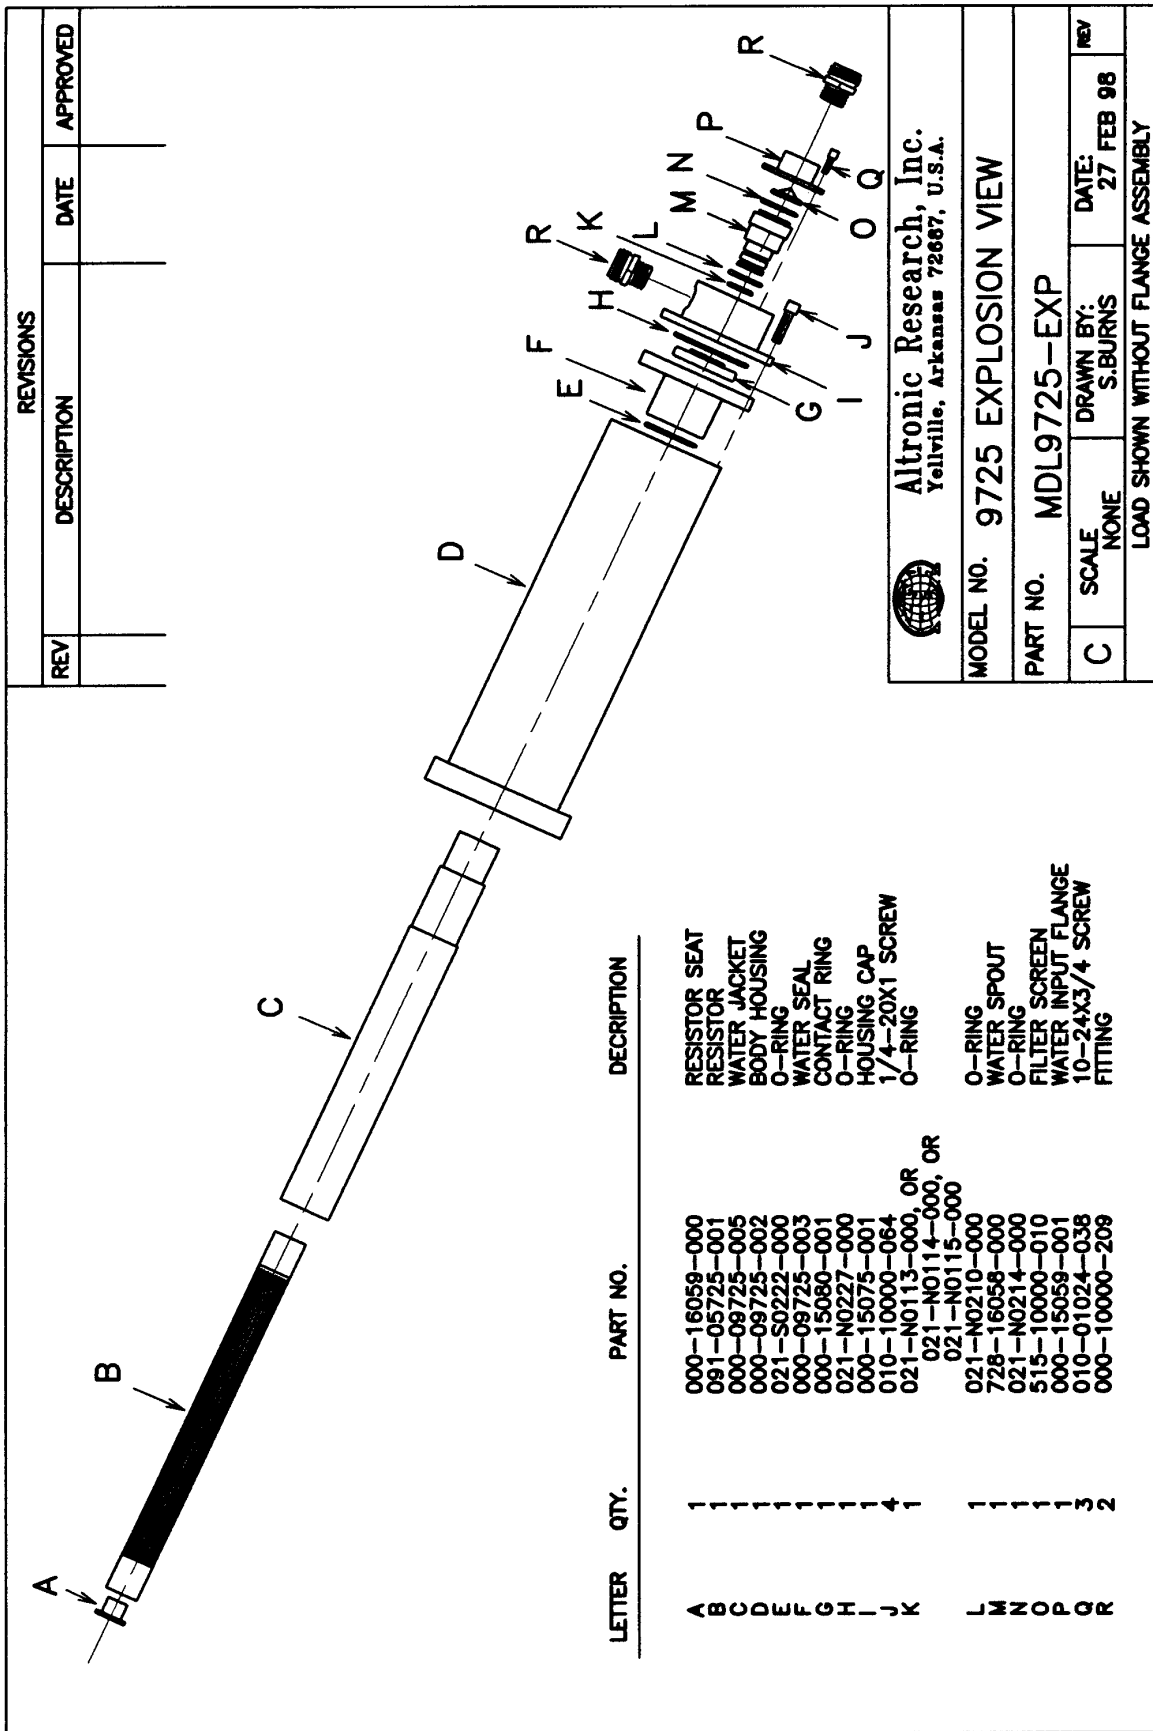
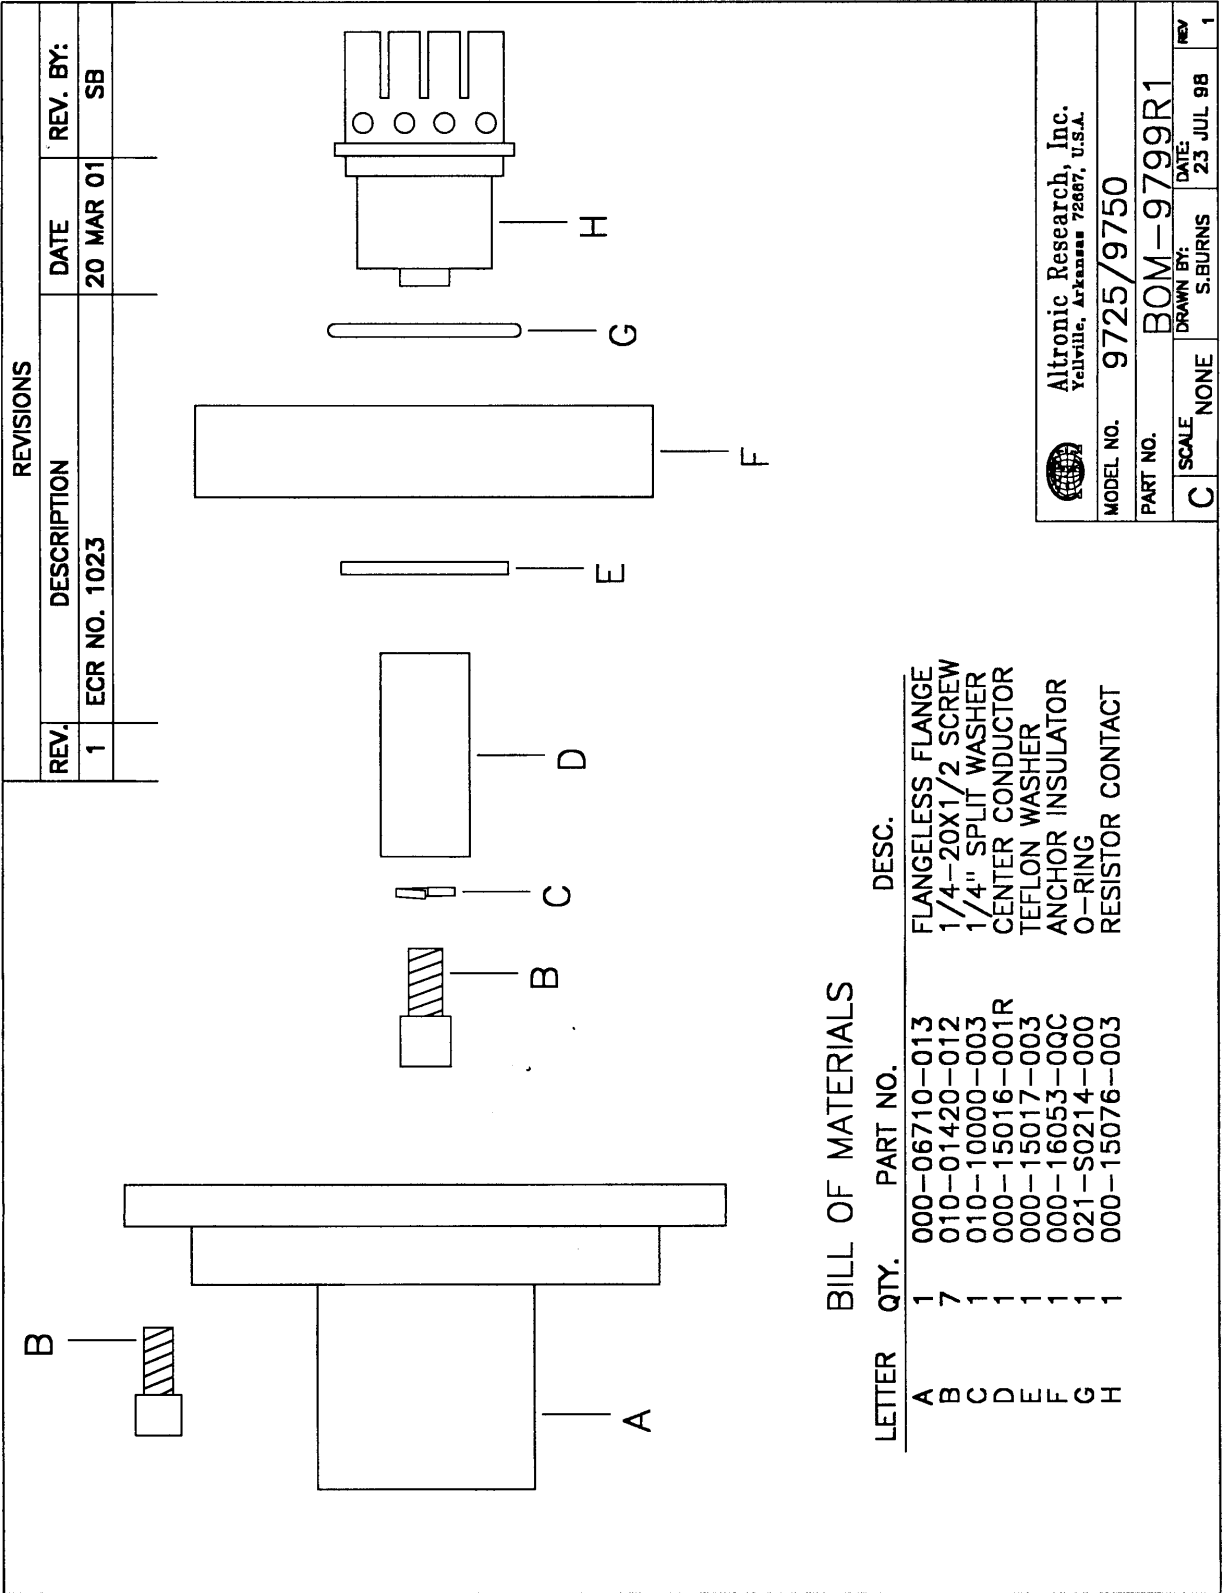

Fig. 14
Fig. 15
4. **Resistor Replacement** - (Refer to Fig. 14) To replace the resistor element, remove the three 10-24x3/8" cap screws (item Q). Remove water input assembly (items O, P, and R). Inspect filter screen for damage, replace if eroded or torn. Remove four 1/4-20x1" cap screws (item J). Remove housing cap assembly (items G, H, I, R, K, M and N). Inspect all O-rings for distortion or damage. Replace if pinched, cut, burned or no longer round in cross section. Inspect ring contact (item G) for signs of arcing or loss of silver in the area of contact with the resistor contact band. Replace if damage is noted. If
- 5. Removal of RF Input** - (Refer to Fig. 15) To remove the RF input line adaptor flange, remove six 1/4-20x1/2 socket head screws (item B) that secures the line adaptor flange (item A) to the load body housing (item D, Fig. 14). The RF input assembly consisting of the center conductor, anchor insulator and front resistor contact (items C, D, E, F, G and H) will normally remain in the load body. Grasp the center conductor (item D) by hand and attempt to pull the input assembly out of the load body using slight side to side motion while pulling. If strong resistance is encountered, it may be necessary to chill the load to allow the anchor insulator to shrink away from the load housing. This can be done by placing the load in a freezer, or packing the load in ice for 20 to 30 minutes. Once the anchor insulator has shrunk away from the load housing, the RF input assembly should be easily removed. At this point of disassembly, all components of the load can be inspected or replaced as needed. Reassembly should be done in the reverse order of sequence.